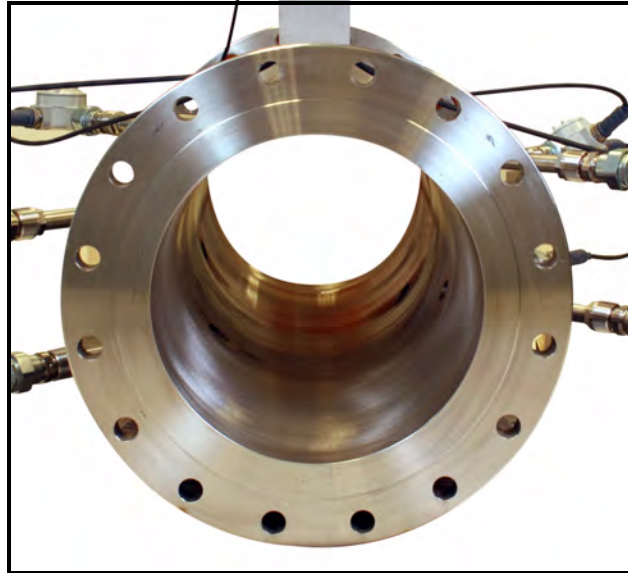

Figure 10: Sentinel End View - Mounting Flange
3. Align the flange mounting holes (see Figure 10 below).